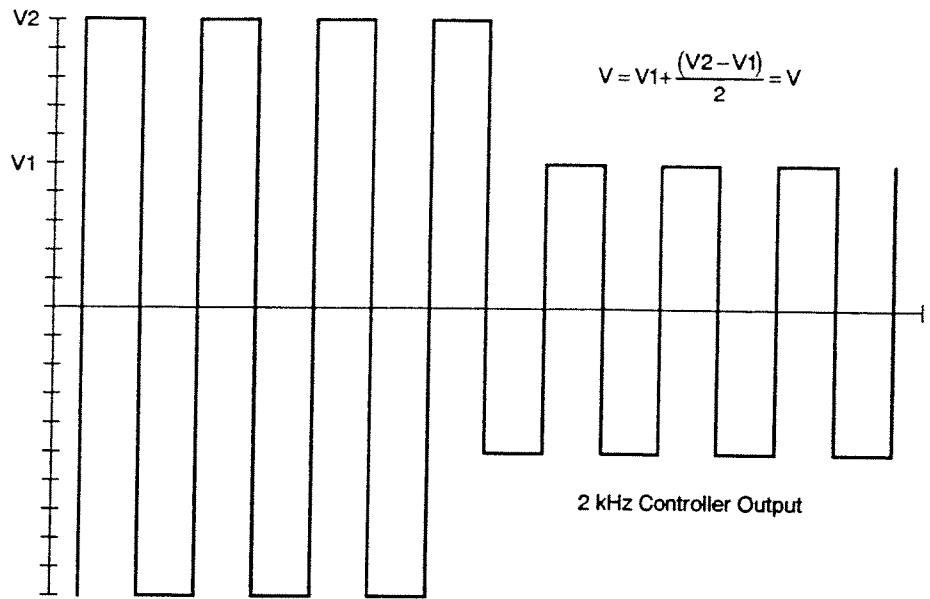

Figure 2.5 — Drive Signal at Two Retardance Levels
1. Follow the procedures above for "Front Panel Operation" to determine the voltage settings corresponding to the minimum and maximum attenuation levels you wish to achieve. Let V1 and V2 correspond to the displayed voltages for the minimum and maximum attenuation levels respectively. Figure 2.5 indicates the 932-CX output waveform for two different voltage settings. After you have recorded these values turn the VOLTAGE knob counter clockwise until it stops rotating and then switch the red power switch to the OFF position.